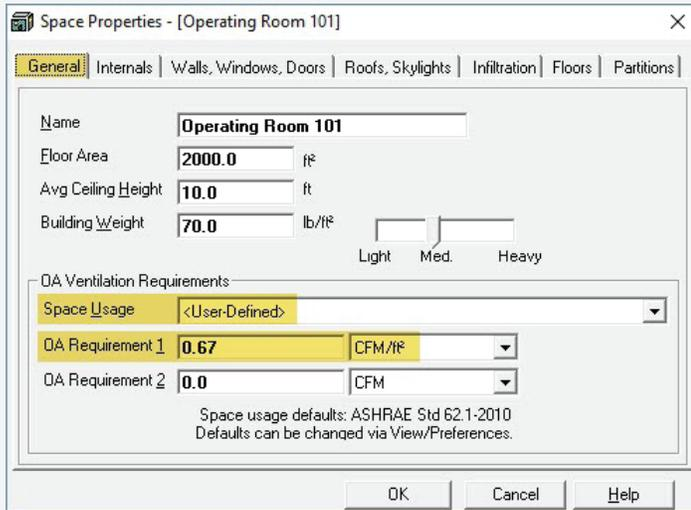
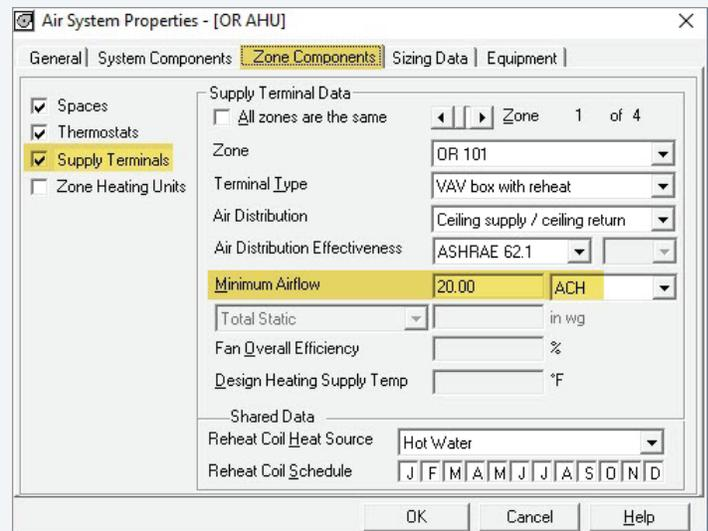
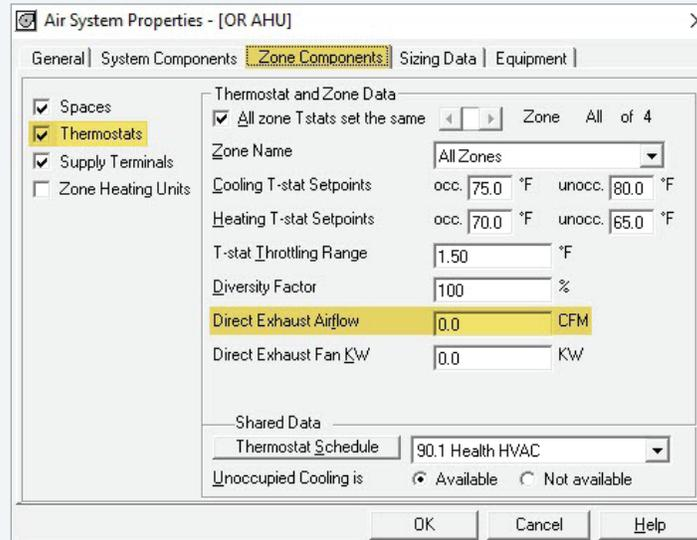

Figure 2. HAP Space Properties – OA Ventilation Requirements Inputs
Figure 4. HAP Air System Properties – Zone Components – Supply Terminals Min Airflow Input
Figure 5. HAP Air System Properties – Zone Components – Thermostats – Direct Exhaust Airflow Input
In the HAP Space input screen for OA Ventilation Requirements change the Space Usage category to “User-Defined” then enter this resultant cfm/sq ft value as the space ventilation for OA1, as shown in Figure 2.
NOTE: Some space function categories such as storage rooms, corridors, etc. have no Min OA ACH requirement. For those cases simply enter 0 cfm/ sq ft for OA1 in the space (see Figure 2).
Step 3: Now take the **Min Total ACH** value (20 ACH) from the Standard 170 table 7.1 (Figure 1) and directly enter it in the system under the Zone Components tab under Supply Terminals input, as indicated in Figure 4 below:
Finally, verify the requirement for "Direct Exhaust" from the zone, per the Table 7.1 requirement (Figure 1). This is entered under the Thermostats setting, as shown in Figure 5 below:
As indicated in Table 7.1 (Figure 1) an Operating Room does not have a requirement for Direct Exhaust, however, certain other space types do, such as decontamination, waiting areas and medical gas storage. For those space types you will need to compute the Total Space CFM, using Equation 1, and enter that same airflow value for Direct Exhaust Airflow (see Figure 5).
As in our previous example the 0.67 CFM/sq ft value is entered in the space under Space Properties (see Figure 2) and the Minimum Supply Air ACH is entered in the System under Zone Components > Supply Terminals (see Figure 4). As before, make note of any requirement for "Direct" exhaust air from the zone, as indicated by the column, *All Room Air Exhausted Directly to Outdoors?* If required this direct exhaust should be set in the Zone Components > Thermostats field (see Figure 5). For the Operating Room there is no requirement (NR) for direct exhaust so we leave this input set to zero.
It should be noted that there are some space function categories that have no requirement for supply air or minimum outdoor air. Typically, spaces such as storage rooms or toilets will indicate "NR" under the Minimum Outdoor Air ACH field and "#VALUE!" under the Minimum Outdoor Air in CFM/sq ft field, as shown in Figure 8 below. In these instances, simply enter 0 CFM/ sq ft for OA1 in the space (see Figure 2).